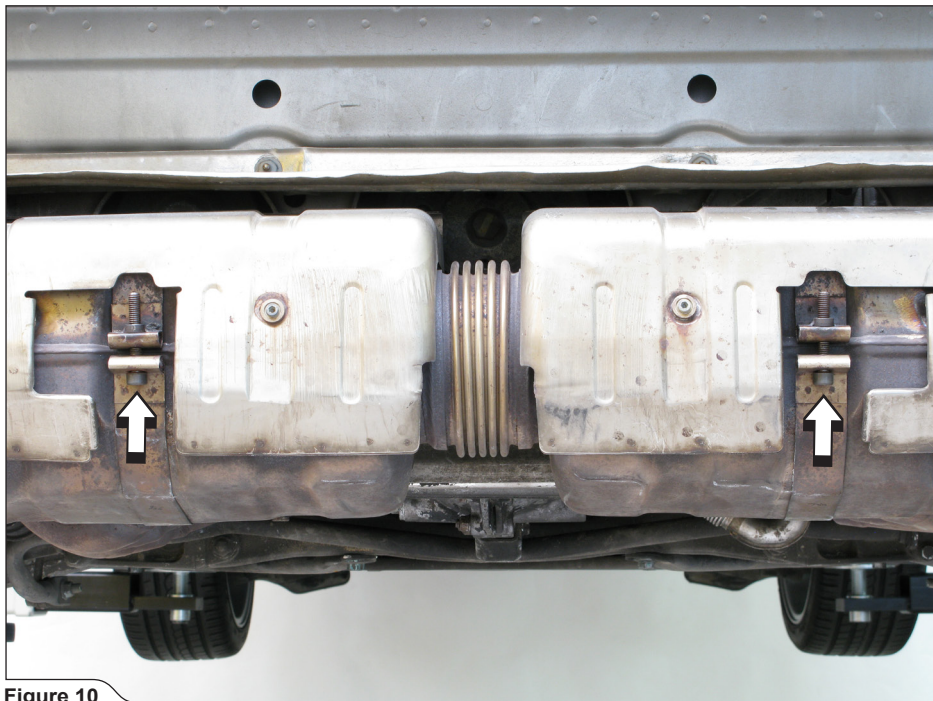

Figure 10
8. **For Slip-On and Evolution:** unscrew the marked muffler clamps and remove the muffler with link-pipes off the vehicle. (Figure 10).